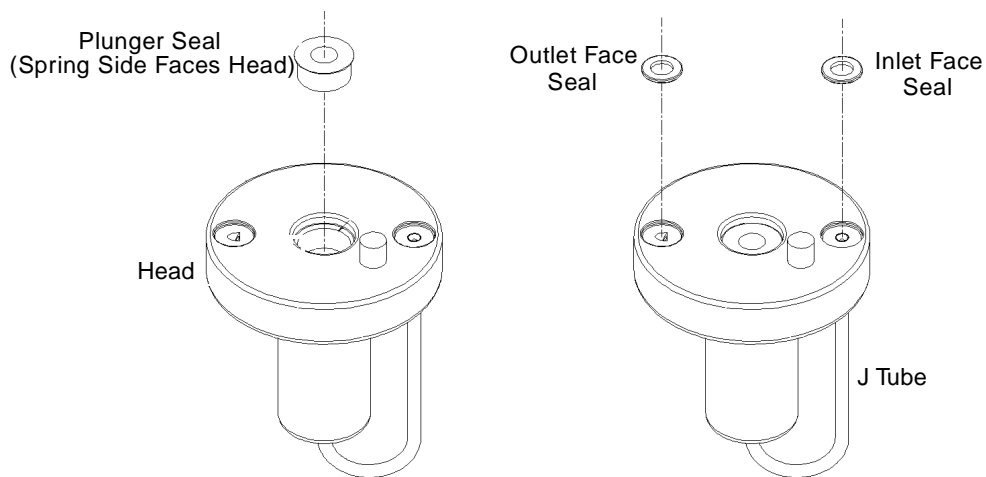

Figure 7-3 Plunger and Face Seal Orientation
**Note:** To ensure optimum performance, replace the plunger seal in a head when you perform service. Replace the face seals after you have replaced the plunger seal two or three times (see Figure 7-3).
2. Use the plastic end of the seal removal tool to remove the plunger seal from the head (Figure 7-3).
4. Place the new plunger seal on the seal insertion tool with the spring side facing away from the tool. Insert the tip of the tool into the plunger seal opening in the head (see Figure 7-3), then push firmly to install the seal.
2. Direct compressed air into the center of the face seal or use plastic tweezers to remove the inlet and outlet face seals from the seal openings in the head (see Figure 7-3).